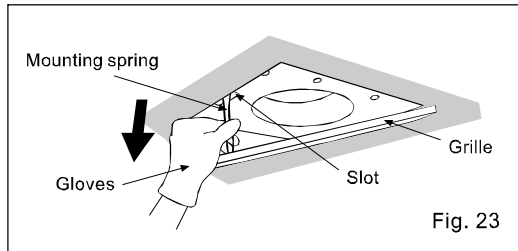
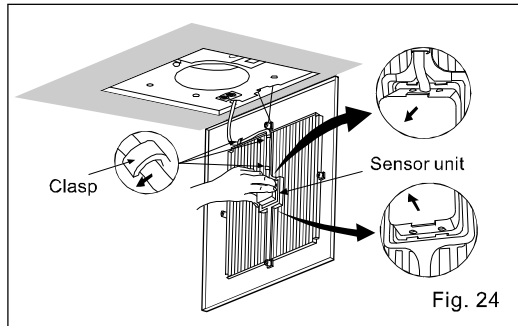

Fig. 23
Fig. 24
1. Remove grille pull down one mounting spring (no sensor lead passed). Remove sensor unit then pull down the other mounting spring. (Squeeze mounting spring and pull down carefully.) (Fig. 23, Fig. 24)